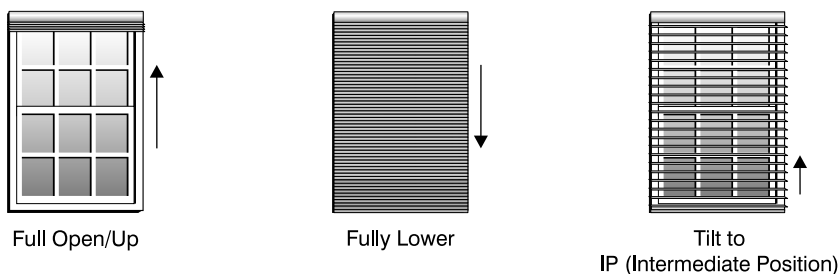

Figure 3.
- Programming will enable Horizontal Blinds to FULLY RAISE and LOWER to a FULLY CLOSED POSITION (Fig. 3)